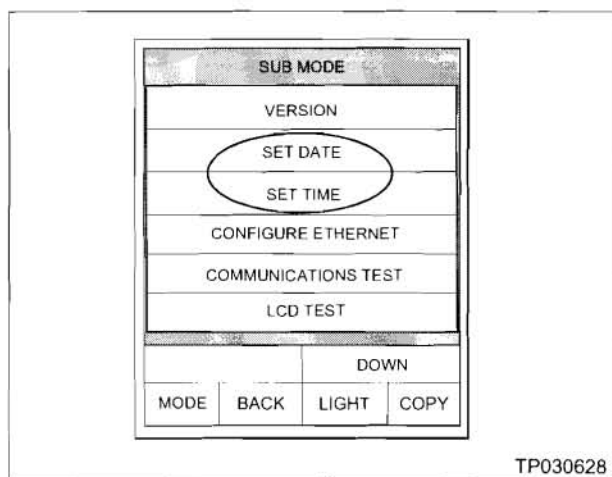

Figure A3
C. Touch **SET DATE** (see Figure A3).
D. Touch **SET TIME** (see Figure A3).